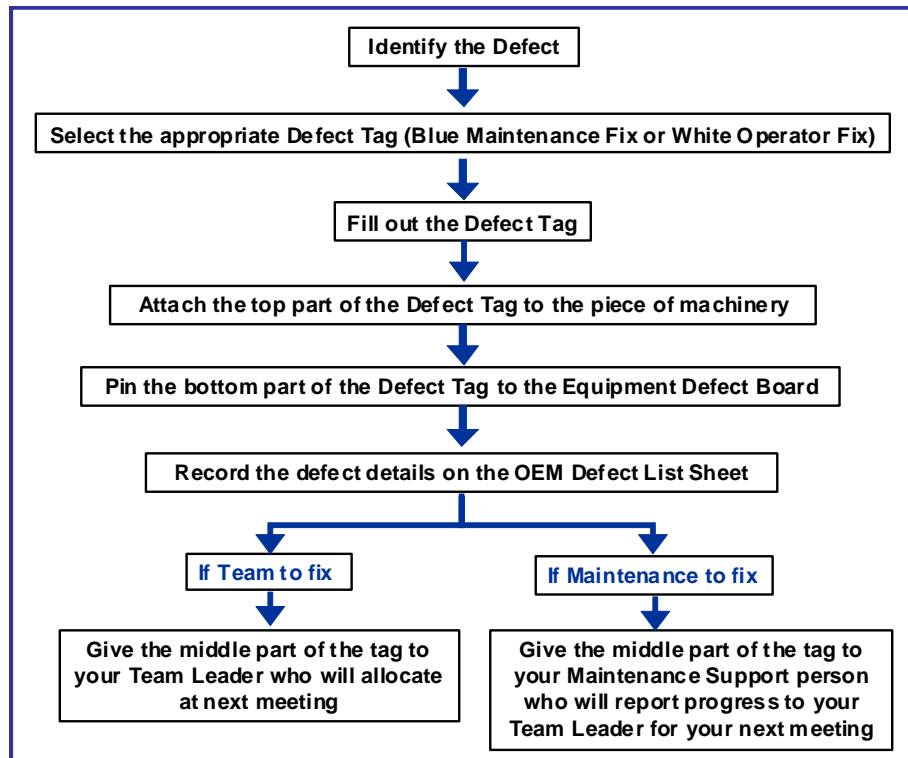

Figure 1 - Example Defect Tagging Procedure Flow Chart
1.	Defect Tagging Procedure Flow Chart A simple flow chart explaining the procedure of how to tag equipment defects. (Refer to example in fig. 1)